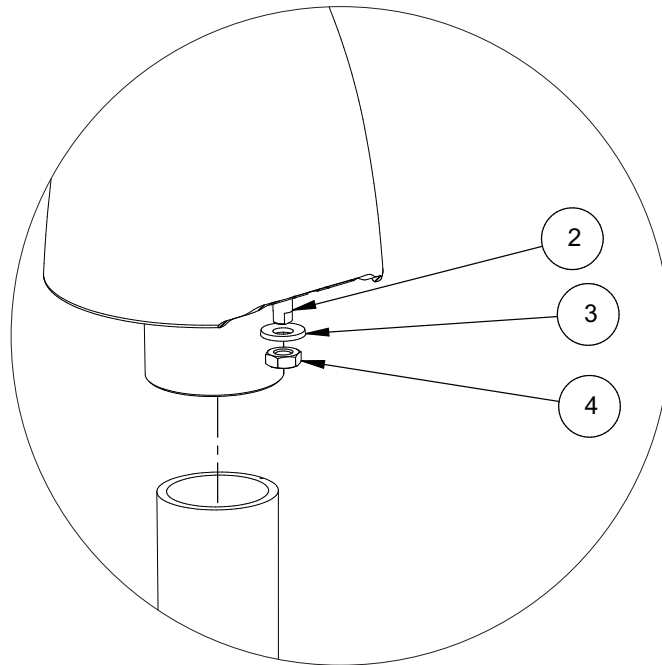

Figure 8.5: Grounding Terminal Assembly
1. Remove the nut (Item 4 in Fig. 8.5) and the safety washer (Item 3 in Fig. 8.5).
2. Place the ring terminal onto the grounding bolt (Item 2 in Fig. 8.5).
3. First place the safety washer (Item 3 in Fig. 8.5) onto the grounding bolt (Item 2 in Fig. 8.5), then screw the M8 nut (Item 4 in Fig. 8.5) onto the thread of the grounding bolt.
4. Tighten the nut (Item 4 in Fig. 8.5) with a max. torque of 6 Nm.